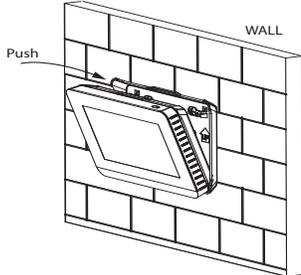

Fig. 8 — Snap controller into place
- Push the controller back toward the wall until it snaps into place as shown in Figure 8.